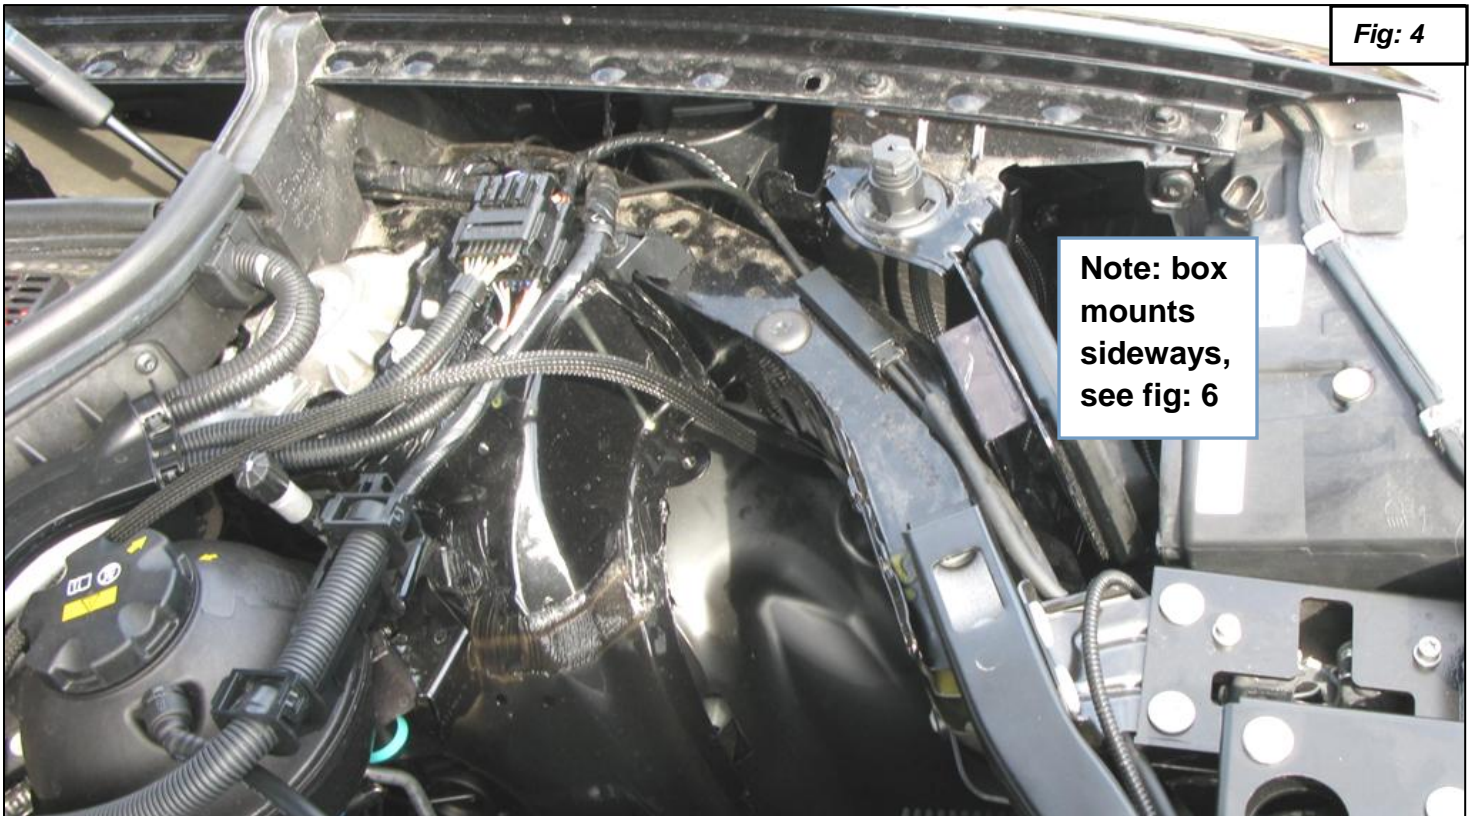

Fig: 4
- Route the wires for the DINANTronics box to the bracket area going underneath the frame rail and bring it up to the DINANTronics box behind the headlight. See figure 4.